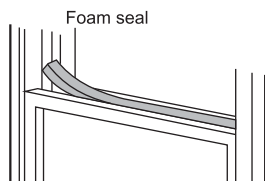

Fig. 11
5. Cut the foam seal to an appropriate length and seal the open gap between the top window sash and outer window sash. See Fig. 11.